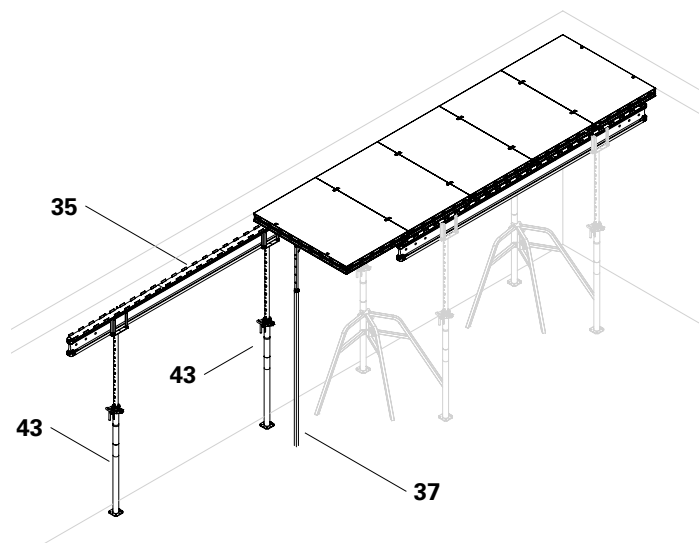

Fig. D6.17
9. Place the next girder (35) right next to the previous girder in order to support the DP panel (10). Adjust the height of the slab props (43). Arrange the girders so they are flush with the previous girder rather than laterally offset. (Fig. D6.17)